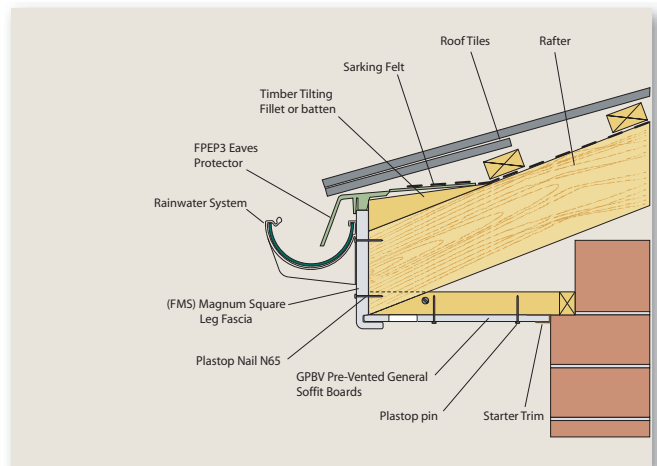

Fig 4. Magnum Square Leg Fascia with horizontal soffit.
**Figure 4** shows a typical arrangement for a pitched roof with soffit. Suitable ventilated soffit details are shown in Section 3.3. The drawing also illustrates the use of FPEP3 Eaves Protector. For new build projects, this will extend the life of the eaves weather protection and in replacement work it will insure against any deterioration of the existing felt. The FPEP3 should be placed under the felt edge.